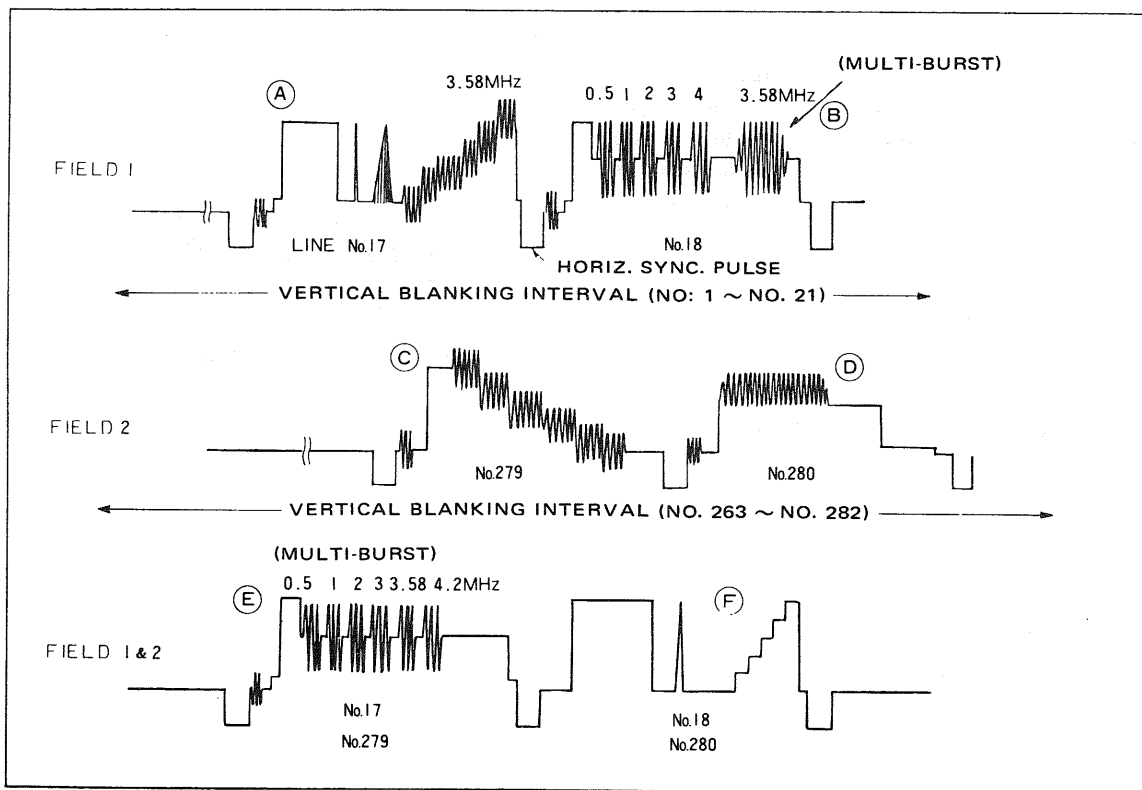

Fig. 16 VITS signal, Fields 1 and 2
The transmitted VITS is precision sequences of specific frequencies, amplitudes and waveshapes as shown in Fig. 16. The television networks use the precision signals for adjustment and checking of network transmission equipment, but the technician can use them to evaluate television set performance. The first frame of VITS at the "B" section (line 18) in Fig. 16 begins with a white reference
9. Set the SWEEP TIME/DIV control to the 0.1 ms position. This expands the display by increasing the sweep speed. The VITS information will appear toward the right hand portion of the expanded waveform displays. The waveform information on each trace may appear as shown in Fig. 16. Because there is no provision for synchronizing the oscilloscope display to either of the two fields which comprise a complete vertical frame, it cannot be predicted which field display will appear on the CH1 or CH2 display.
the control in a counterclockwise direction moving the traces to the left until the expanded information appears as shown in Fig. 16. Because of the low repetition rate and the high sweep speed combination, the brightness level of the signal displays will be reduced.